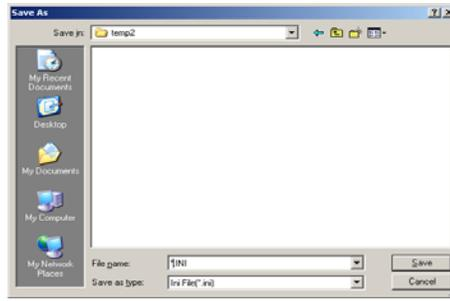

Figure B-28: Windows Save As Screen
3. Click on the Download button to start downloading the configuration. A Windows Save As screen will display for saving and naming the file (Figure B-28).
4. Select the folder in which to save the file (temp2 in the example shown in Figure B-28) and enter a file name. Do not leave the *.ini in the file name box (see Figure B-28). Delete the * and replace it with the desired file name (backup.ini in the example shown in Figure B-28).